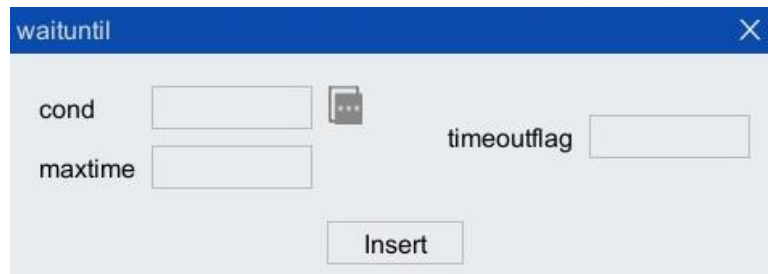

Figure 5-39 "waituntil" instruction configuration interface
Step1.Click "Insert Cmd> Process Control> waituntil" option in the toolbar of the program editor to pop up "waituntil" instruction box, as shown in Figure 5-39.